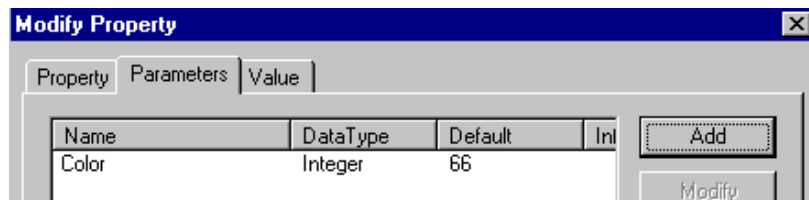

Figure 148. New Parameter Definition
- Click **OK** to accept your entries. When keyboard focus is returned to the Modify Property dialog, the new parameter definition is displayed, Figure 148.